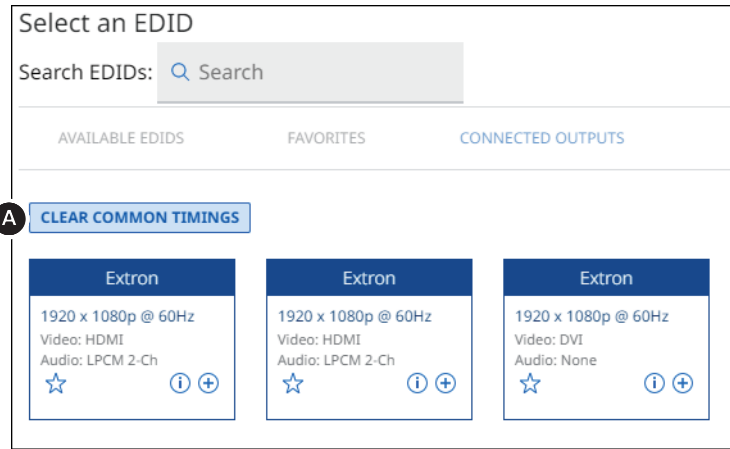

Figure 63. Display of Common Timings
7. Click **Show EDIDs** (**5**). Only the available EDIDs that match the resolution and refresh rate of the **Common Timing** selection appear (see **figure 63** on page 62).